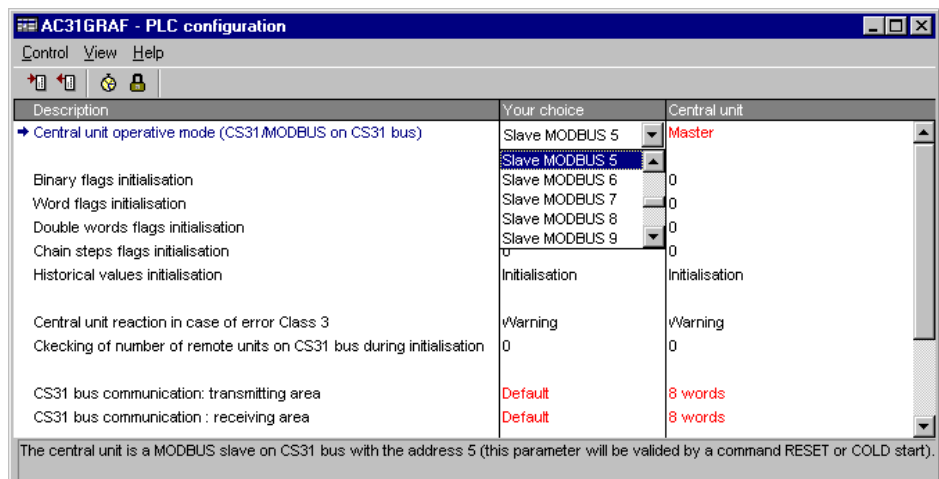

Figure 7-8 : : Configuration of COM2 through PLC configuration window in AC31GRAF
- ⇒ If you use the CS31 connection: Select the MODBUS[®] address from the list of the "Central unit operative mode (CS31 MODBUS[®] on CS31 bus)" line (see Figure 7-8)